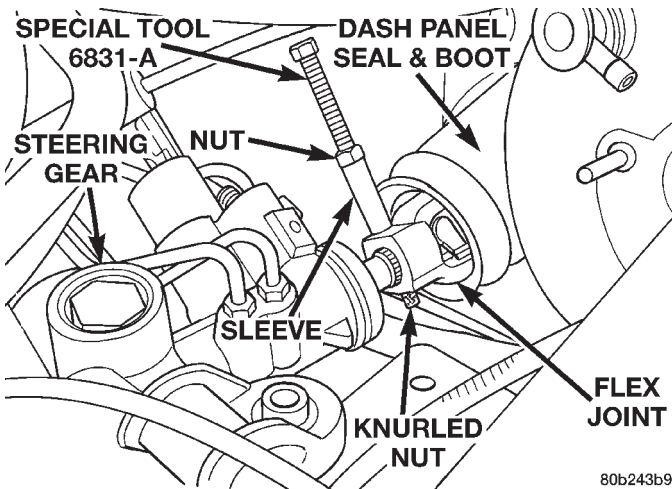

Fig. 17 Steering Coupler Roll Pin Removal
(22) Using roll pin remover, Special Tool 6831A, remove roll pin from flex joint of intermediate shaft (Fig. 17). Roll pin is removed from coupler using following procedure. Remove knurled nut from small end of removal tool. Insert small end of removal tool through center of roll pin and then install and hand tighten knurled nut. Position sleeve of removal tool on flex joint as shown in (Fig. 17). Holding threaded shaft of tool from turning tighten nut (Fig. 17) pulling roll pin out of flex joint.